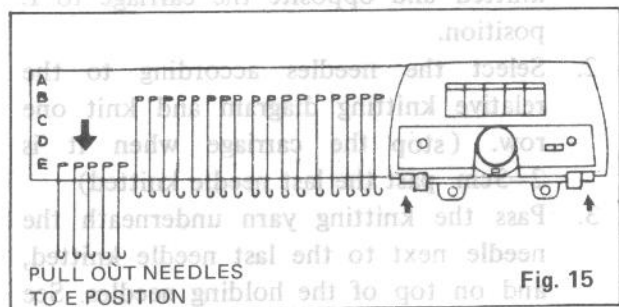

Fig. 15
Knit with right and left (I) buttons of the carriage pushed in. (Fig. 15)
4. Repeat step (2).
- Repeat the above steps (1) – (4).